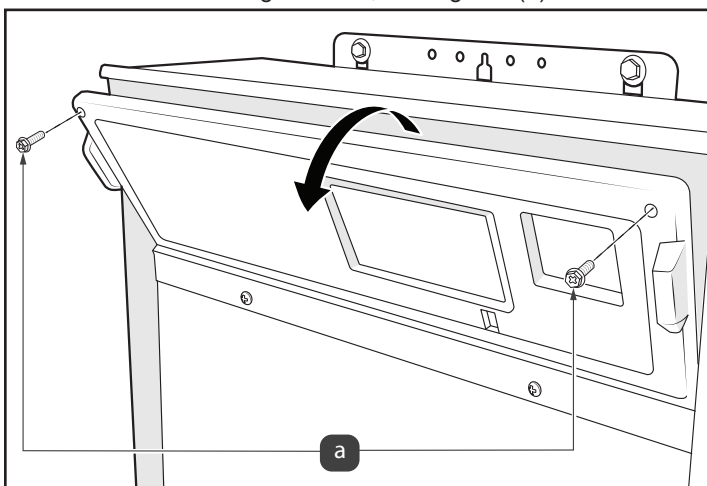

Figure 9. Remove Pentair® Control Panel Screws
- Remove the top two screws on Pentair control panel, swing panel down to allow access to wiring behind it, see Figure 9(a).